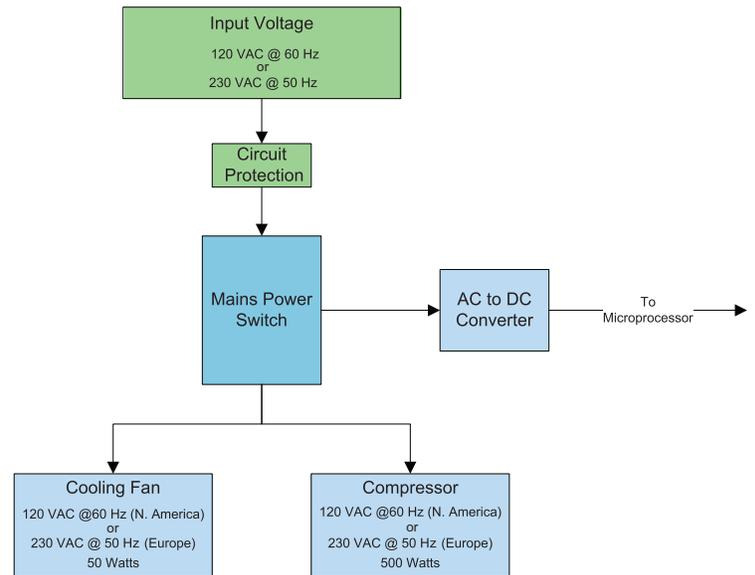

Figure 4: Diagram of Mains Electrical Distribution
All electrical components of the CAIRE Companion 5 are all controlled by a PCB. The electrical cord supplies mains AC power (120 VAC @ 60 Hz or 230 VAC @ 50 Hz) to the main circuit board when the power switch is in the "ON" (I) position. The PCB distributes the mains power to all of the electrical components. The AC mains power is distributed and routed directly to the compressor and the cooling fan. The compressor and cooling fan both operate at 120 VAC @ 60 Hz or 230 VAC @ 50 Hz. The remaining power travels to a DC power converter/regulator. Figure 4 is a block diagram showing the flow and distribution of mains power into the concentrator.